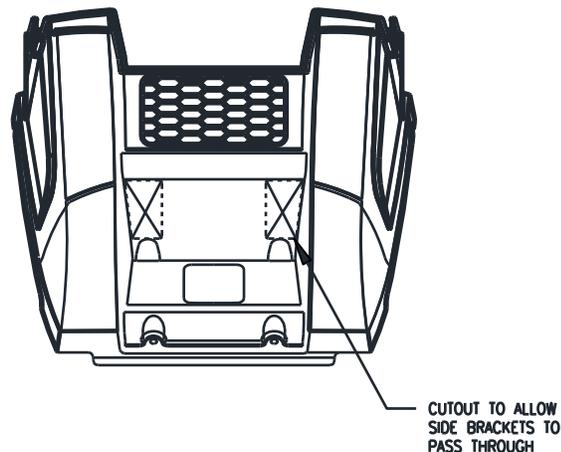

Figure 2
11. Use Skid Plate Assembly (1) as template to mark and cut plastic skid pan on vehicle.
12. Using two 3/8"-16 x 1" Bolts (C), two 3/8" Flat Washers (D), four 3/8"-16 x 2 ID x 3-1/2" U-Bolts (A) and ten 3/8"-16 Nylon Lock Nuts (B), finish attaching front of Skid Plate Assembly (1) to vehicle frame. Leave fasteners loosely attached at this time.
13. Mark out and cut lower bumper housing as shown in Figure 2.
14. Using existing hex head cap screws install lower bumper housing. Lower bumper housing should be placed over Skid Plate Assembly (1).
15. Using four 5/16"-18 x 1" x 2-3/16" U-Bolts (J) and eight 5/16"-18 Nylon Lock Nuts (K) install Upper Bracket (5) as shown in diagram. Leave roughly an 1/8" gap from bottom lip of Upper Bracket to vehicle frame.
16. Slide in Side Bracket Passenger Side (2) and Side Bracket Drivers Side (3) from behind lower bumper housing and attach to Upper Bracket (5) using four 1/2"-13 x 1-1/2" Bolts and four 1/2"-13 x Nylon Lock Nuts as shown in diagram.
17. Attach Pushbeam Assembly (4) using six 3/8"-16 x 1-1/2" Bolts (E), six 3/8"-16 Nylon Lock Nuts (B), four 1/2"-13 x 1-1/2" Bolts (F) and six 1/2"-13 Nylon Lock Nuts (G).